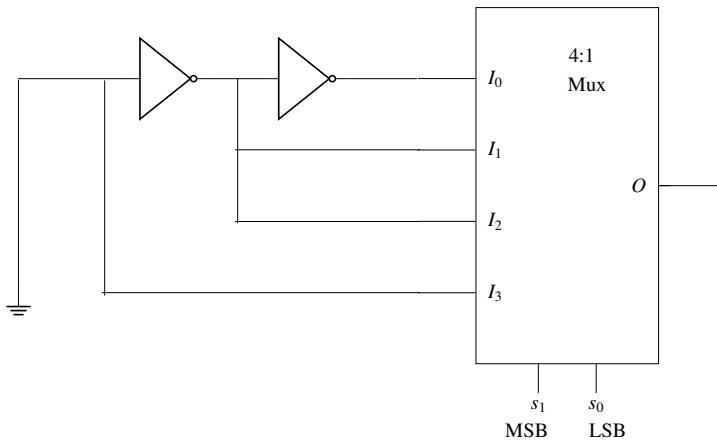

Fig. 3.28
47. The Boolean operation performed by the following circuit in Fig. 3.28 at the output O is _____.